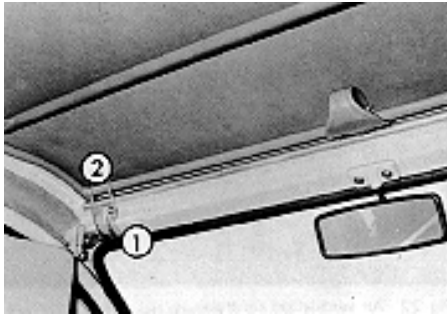

Fig. 24
Pivot the locking levers (Fig. 24, Mark 1) to release the retaining hooks. (2)
Secure it by means of the hooks (Fig. 24, Mark 2).